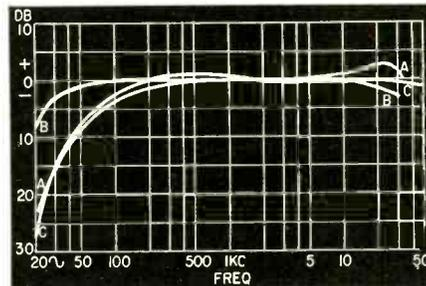
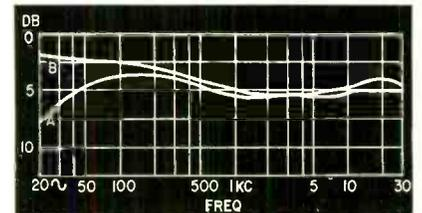

Fig. 3—Frequency response of the 600-ohm line output: curve A, input fed to J1; curve B, input fed to J5; curve C, line output with recorder input.
Fig. 4—Response of the recorder output: curve A, input to J1; curve B, input to J5.
Response curves are shown in Figs. 1-5. Fig. 1 shows the response from MIKE 1 input to the speaker output, with four settings of the tone controls. Curves A and B provide excellent response throughout the audio range and beyond on the high-frequency side. Fig. 2 shows the speaker output with the input to the phono circuit (J5). Curves A and B are even better here than in Fig. 1 because the signal does not have to go through an input transformer and there is one less coupling capacitor. Note that the response is better at both the low and extremely high frequencies. Fig. 3 shows the remote line output with input from each of the three sources. Here again the phono input (B) has the best bass response, but the recorder input (C) seems to have slightly better high-frequency response. Fig. 4 shows the recording output response with microphone and phono inputs. Fig. 5 shows speaker and line outputs with input to the recording jack (J4).
Output to the tape recorder feeds through a frequency-correction network to S3, which must be thrown to the RECORD position, and out of J4. The recorder output curves of Fig. 3 were made with the recorder connected to J4.